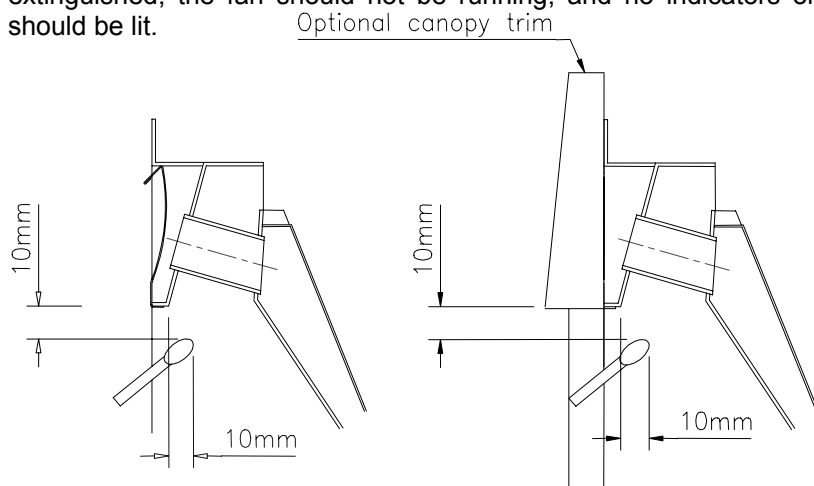

Fig. 16a
3. After approximately 5 minutes place a smoke match (shrouded smoke match on Theme 22) 70mm from the right hand side, inside edge of the trim, 10mm below and 10mm within the opening of the fire as shown in Figs. 16a and 16b. Ensure that the smoke is drawn into the fire aperture. If spillage is detected, the cause must be discovered and the fault corrected. If the cause cannot be corrected disconnect the gas supply to the appliance and seek expert advice. NOTE: DO NOT HOLD THE SMOKE MATCH IN ANY OTHER POSITION.